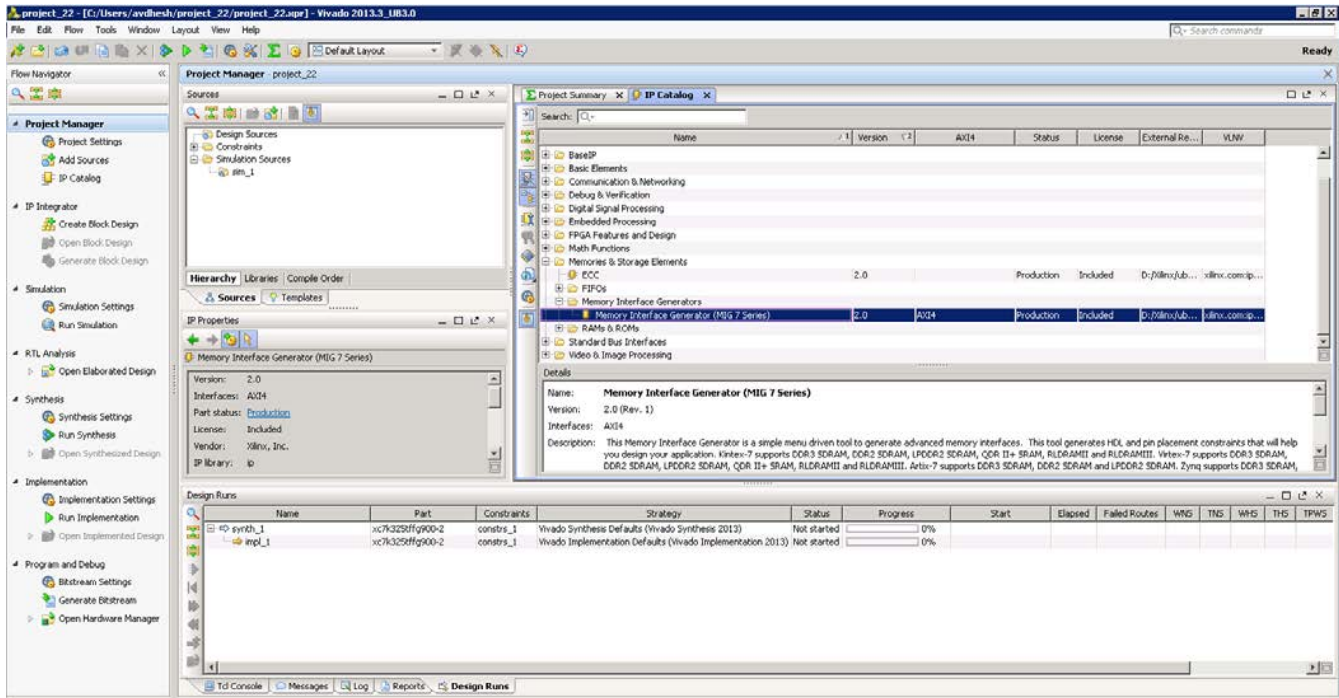

Figure 3-12: IP Catalog Window – Memory Interface Generator
11. Click **IP Catalog** on the Project Manager window to open the Vivado IP catalog window. The IP catalog window appears on the right side panel (see Figure 3-12, highlighted in a red circle).
12. The MIG tool exists in the **Memories & Storage Elements > Memory Interface Generators** section of the IP catalog window (Figure 3-12) or you can search from the Search tool bar for the string "MIG."